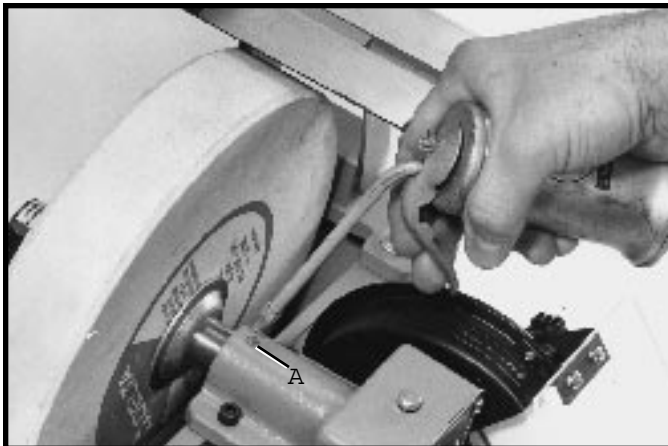

Fig. 22
Occasionally lubricate the arbor shaft with light machine oil, through the oiler (A) Fig. 22, provided.